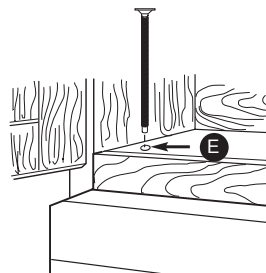

Figure 32
3. Then insert a bolt down through each hole in the upper cabinet bottom. See Figure 32. Tighten the bolts until the gap between the upper cabinet and microwave oven is closed.